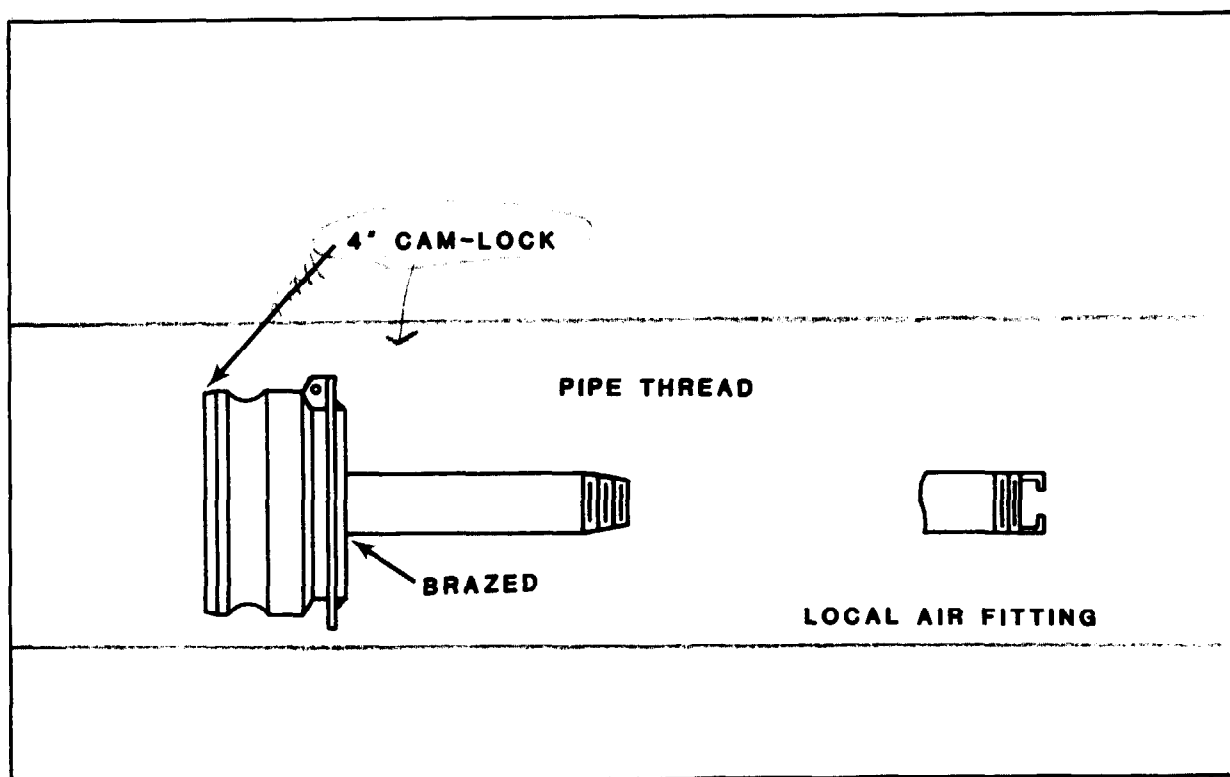

FIGURE B-4
- d) Adapter Air Blowdown 4" cam-lock X 1-1/4" NPT (Figure B-4)